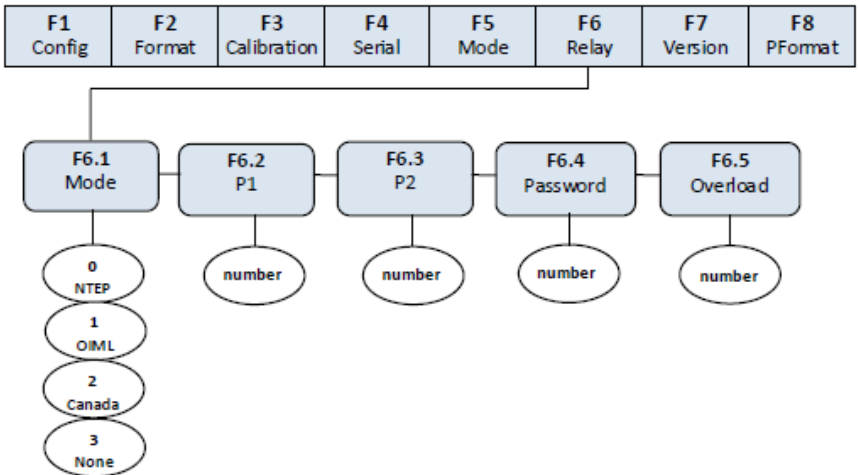

Fig. 12.1 Relay Output Menu
- (1) Turn on the K1, SW2 or J1 switch to set indicator to the Configuration mode (display shows “F1”).
- (2) Press  $\blacktriangleright$  until display shows “F6” (see Fig. 12.1). Press  $\blacktriangledown$  to go to the Relay Output Menu. Display shows “F6.1”.
- (3) When the display shows “F6.1”, press  $\blacktriangleright$  to go to the F6.2 Menu and display shows “F6.2”.